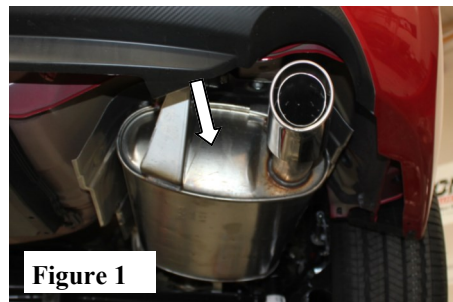

Figure 1
1. Loosen and remove factory hardware in front of rear axle exhaust. Keep hardware for installation of your new exhaust. (See Figs. 1 & 2)